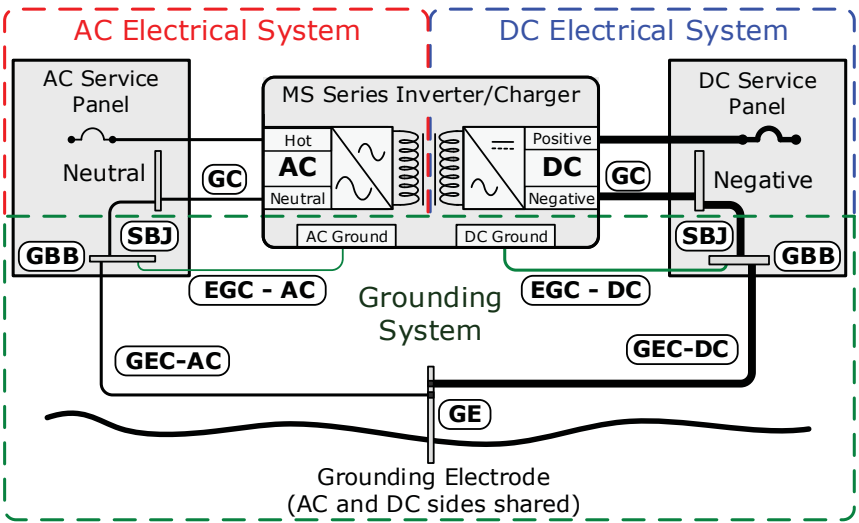

Figure 2-19, Multiple Connections to DC Ground Rod (Method 2)
**Method 2 (Figure 2-19):** When the AC and DC service panels are near each other, then the AC grounding electrode conductor (GEC-AC) and DC grounding electrode conductor (GEC-DC) can be connected to a single grounding electrode. In this method—since there are multiple connections to the DC grounding electrode (GEC-DC)—the size of the DC grounding electrode conductor cannot be smaller than the largest conductor in the DC system (usually the battery-to-inverter cable).